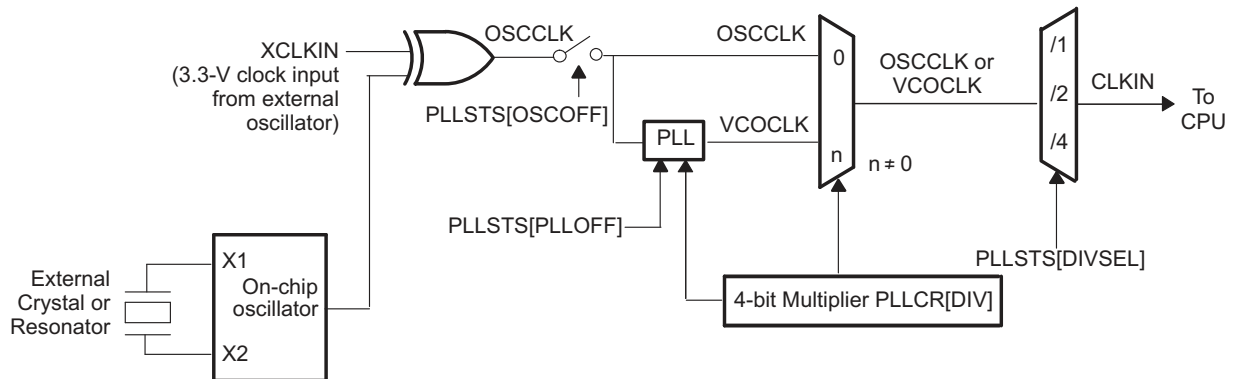

Figure 6-30. OSC and PLL Block Diagram
- A. CLKIN is the clock into the CPU. It is passed out of the CPU as SYSCLKOUT (that is, CLKIN is the same frequency as SYSCLKOUT). See Figure 6-30 for an illustration of how CLKIN is derived.
Figure 6-30 shows the OSC and PLL block.